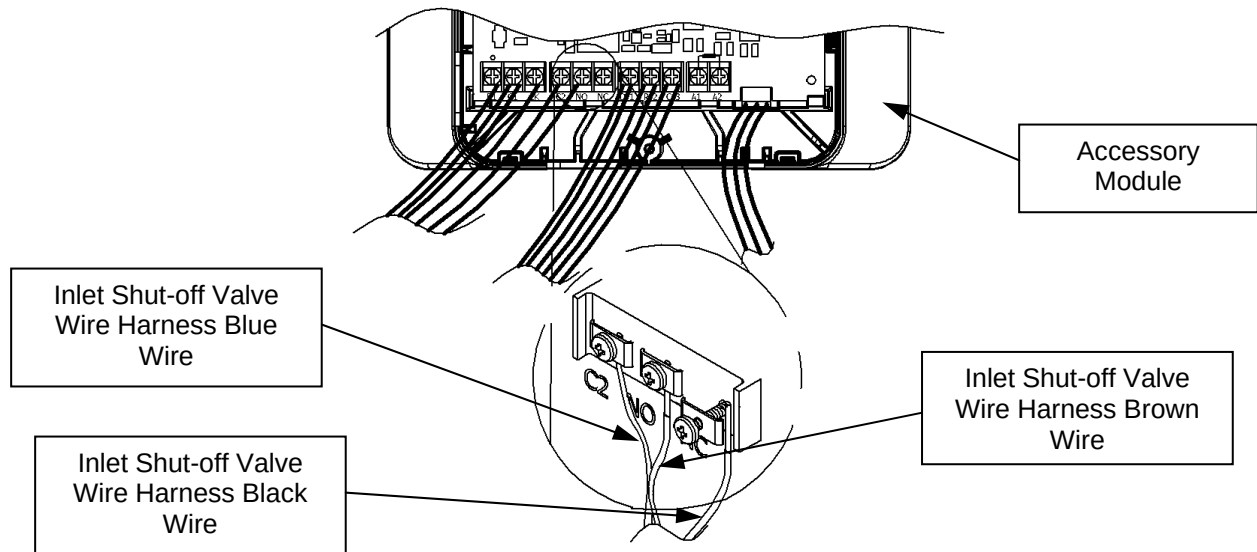

Figure 80
Step 13: Insert the black wire, from the Inlet Shut-off Valve wire harness, under the screw labeled “NC,” as shown in Figure 80.